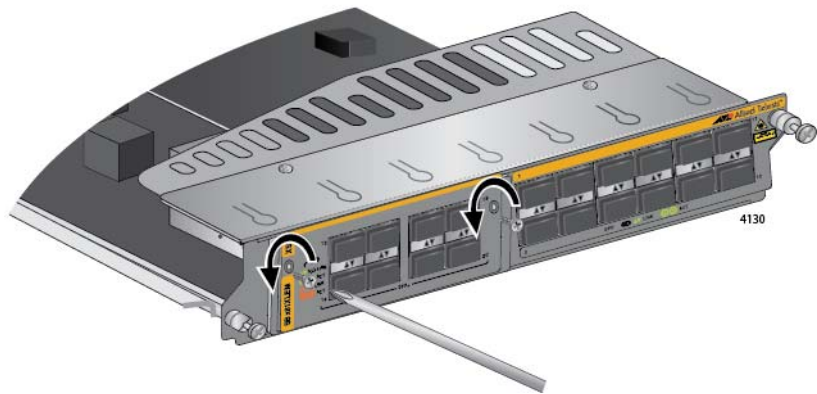

Figure 182. Removing the Screws from the Expansion Module
3. With a Phillips-head screwdriver, remove the two screws that secure the expansion module to the line card. Refer to Figure 182 on page 302.